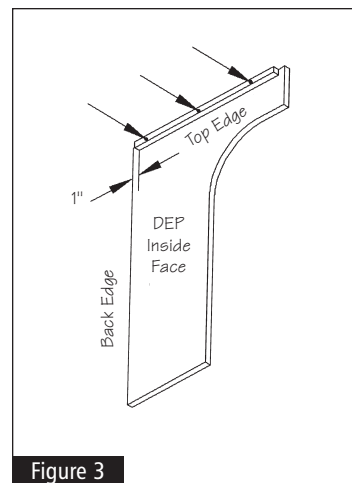

Figure 3
- 2 Trim the wood mounting strip so that it is approximately 2" shorter than the depth of the DEP. Attach the wood mounting strip to the inside face of the DEP flush with the top edge and at least 1" from the back edge of the DEP using (3) 1-1/4" wood screws. See Figure 3.